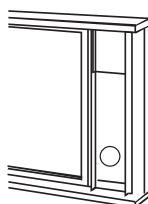

Fig. 14
3. Cut the foam seal (adhesive type) to the proper length and attach it on the top of the window kit. See Fig. 14.